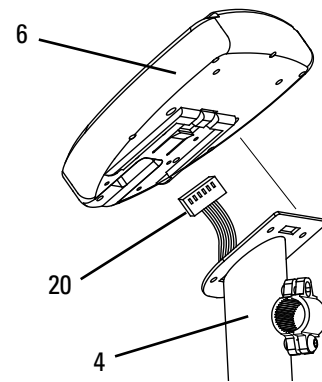
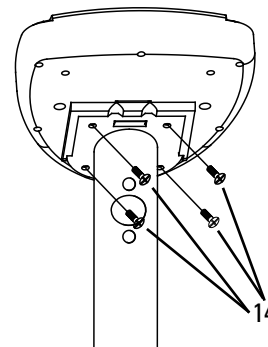

Figure 3A
Figure 3B
3-2: Place the Console Assembly (6) on the Console Mast (4) flat plate (Figure 3A). Secure Console to plate (Figure 3B) using four Phillips Screws (14).